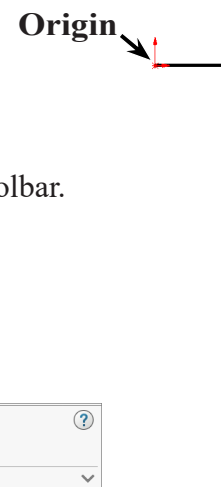

Fig. 2
Step 3. Click **Line**  (L) on the Sketch toolbar.
Step 4. Sketch two lines starting from **Origin** , **Fig. 2**.
Step 5. Click **Smart Dimension**  (S) on the Sketch toolbar.